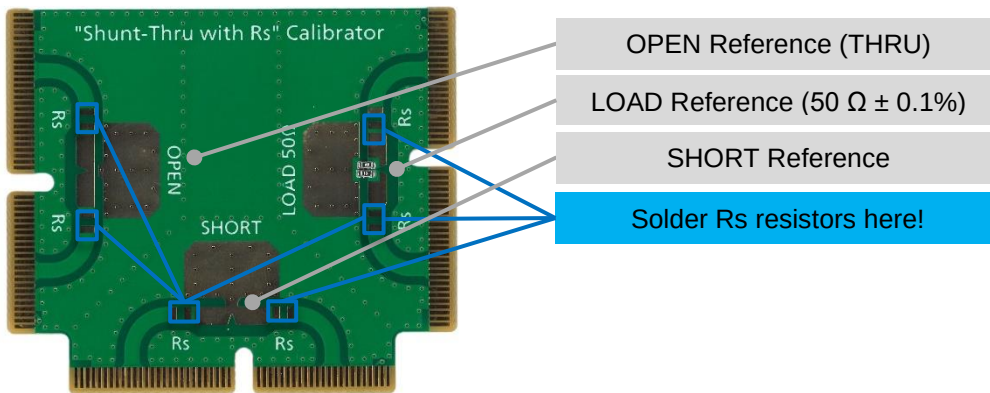

Figure 4-13: “Shunt-Thru with R_s ” Calibrator
To calibrate a Shunt-Thru with R_s impedance measurement use the green “Shunt-Thru with R_s ” Calibrator (see Figure 4-13) containing an Open, Short and Load reference element and proceed as follows:
1. Solder the 6 (six) R_s resistors to the corresponding locations as shown in Figure 4-13.